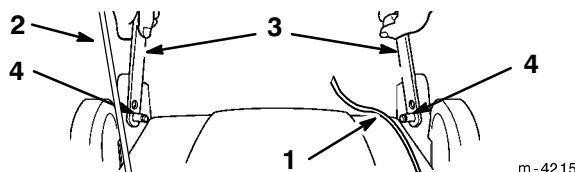

Figure 2
2. Lay the upper handle section on the ground behind the lawn mower with the handle label facing up and the control cables routed between the handle mounting brackets (Fig. 2).
1. Squeeze the lower handle section ends together, position the holes in the handles over the pins on the handle brackets, and release the handle (Fig. 2).